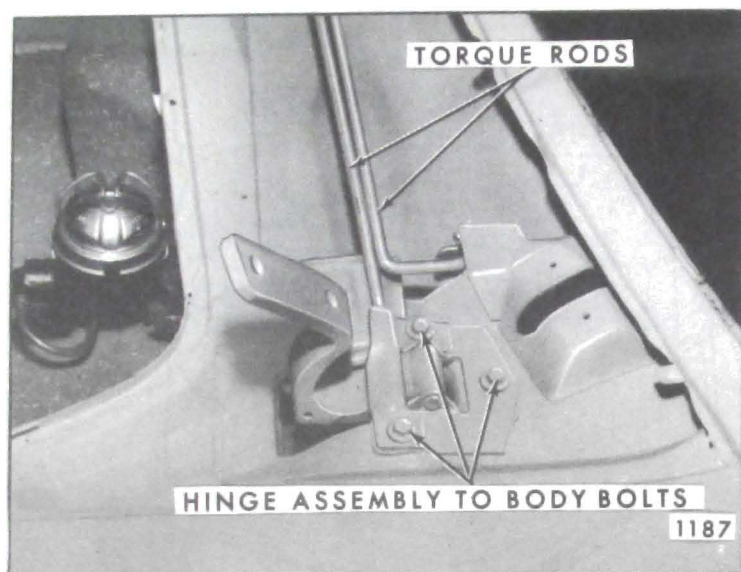

Fig. 3-27—Front Compartment Lid Hinge Removal
1. To adjust front compartment lid forward or rearward or from side to side in body opening, loosen hinge to upper shroud attaching bolts at each hinge and adjust lid as required; tighten bolts (see Fig. 3-27).